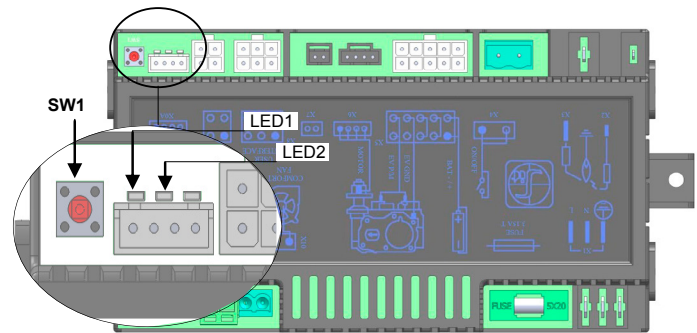
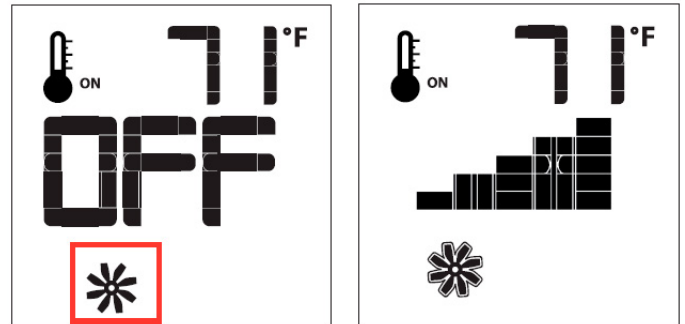
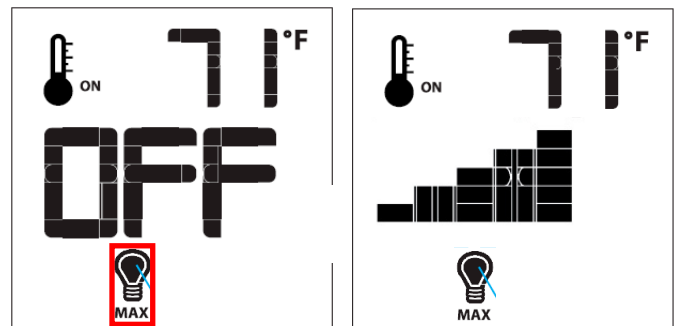
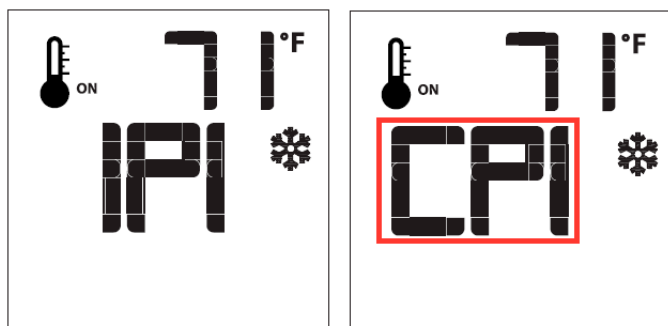

Figure 27.
Figure 27l. Fan Speed Control
Figure 27m. Light Control
Figure 27n. Continuous Pilot / Intermittent Pilot Selection
The Proflame 2 Transmitter uses a streamlined design with a simple button layout and informative LCD display. A Mode Key is provided to index between the features and a Thermostat Key is used to turn On/Off or index through Thermostat functions, see Figure 27. Additionally, a Key Lock feature is provided.
The Smart Thermostat function adjusts the flame height in accordance to the difference between the set point temperature and the actual room temperatures. As the room temperature gets closer to the set point the Smart Function will modulate the flame down. To activate the function, press the Thermostat Key, see Figure 27, until the word "SMART" appears to the right of the temperature bulb graphic, see Figure 27i.
The fireplace is equipped with optional hot air circulating fans. The speed of the fans can be controlled by the Proflame system. The fan speed can be adjusted through six (6) speeds. To activate this function use the Mode Key, see Figure 27, to index to the fan control icon, see Figure 27l. Use the Up/Down Arrow Keys to turn on, off, or adjust the fan speed. A single "beep" will confirm reception of the command.
If the fireplace is equipped with variable accent lights. The accent light function controls the Accent Lights. To activate this function use the Mode Key, see Figure 27, to index to the accent light icon, see Figure 27m.
With the system in "off" position press the Mode Key, see Figure 27, to index to the CPI mode icon, see Figure 27n. Pressing the Up Arrow Key will activate the Continuous Pilot Ignition mode (CPI). Pressing the Down Arrow Key will return to IPI. A single "beep" will confirm the reception of the command.